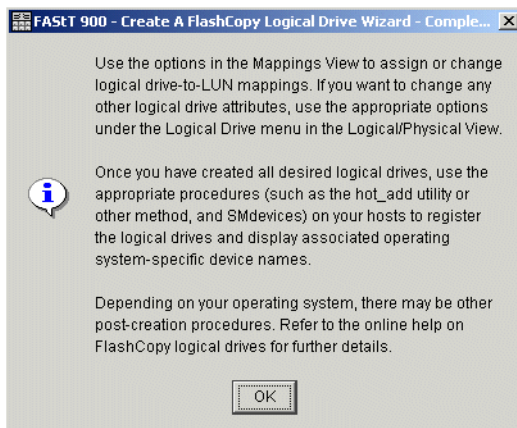

Figure 7-15 Create FlashCopy Logical Drive - Complete
- iv. The Wizard then displays a complete message (Figure 7-15). Click **OK** to continue.
Click **Finish**, and the Create FlashCopy Wizard Complete message box is displayed, as seen in Figure 7-15 on page 210. Read the notice and click **OK** to continue.